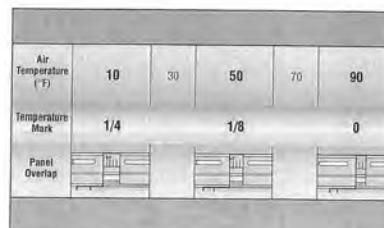

Fig.12
*NOTE: The amount of panel overlap is important and varies depending on air temperature. Check and monitor air temperature when starting to install the first course on each wall. See Chart for amount of overlap. (See Figure 12).*